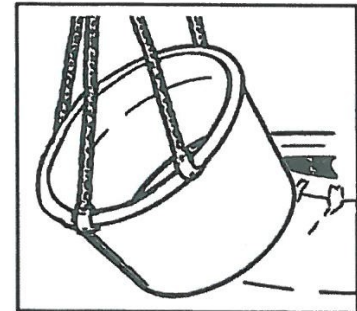

Figure 10
2. Using a hoist, lift the rim base from the tire. Using the AME INTL. Flange Ring Puller Model 93000 will make handling easier. (See Fig. 10)